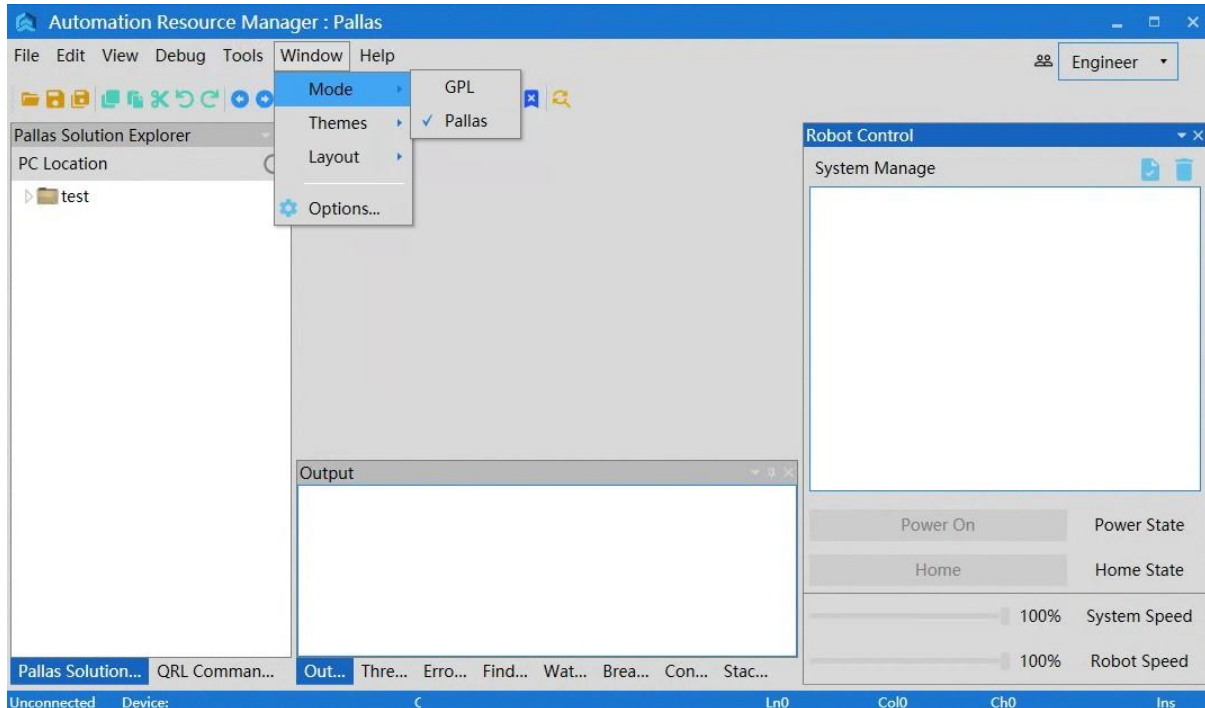

Figure 6-5 ARM interface
Step 1 Double-click the installed ARM to open the ARM interface, and then click <window> on the menu bar to switch to <Pallas> mode, as shown in Figure 6-5.